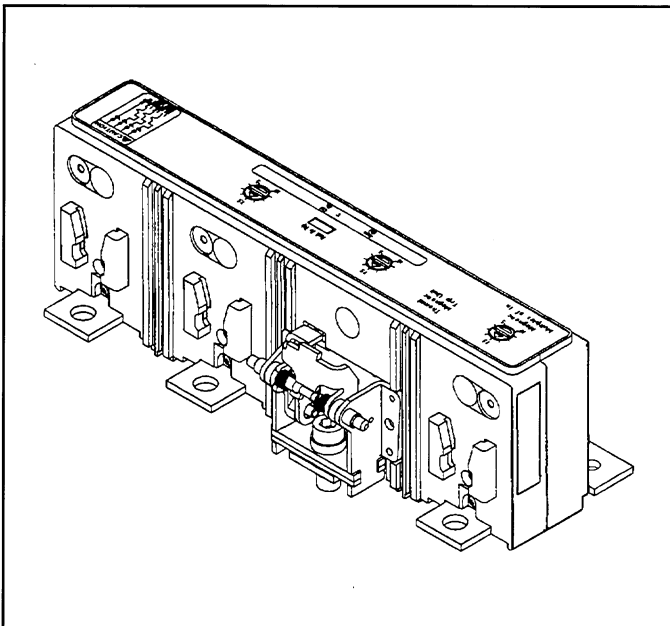

Fig. 1-2 Four-Pole LT Trip Unit with Unprotected Neutral
**Four-Pole Trip Unit:** On UL listed four-pole trip units for use in LD, HLD, and LDC Frames the far right pole of a four-pole circuit breaker is for neutral connection only. There is no overcurrent protection in this pole (see Fig. 1-2). On the four-pole trips units for use in LW, HLW and LWC Frames the far left pole is for neutral connection only. Two versions are available, one type with 60% of  $I_n$  protection and one type with no overcurrent protection. See tables 1-1 and 1-2.